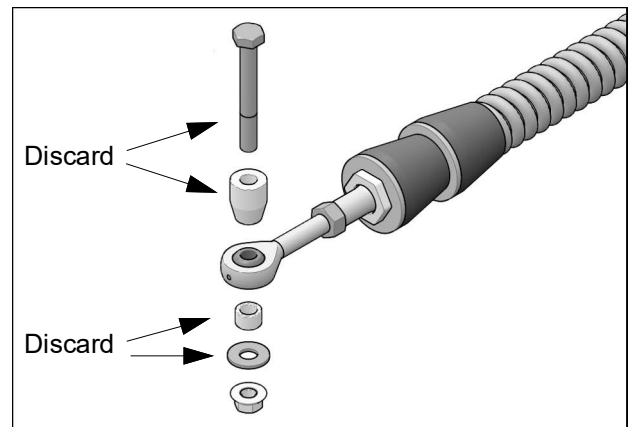

Fig. 3
- Remove and discard bolts, washers, and bushings from rear stabilizing rod ends. See Fig. 3